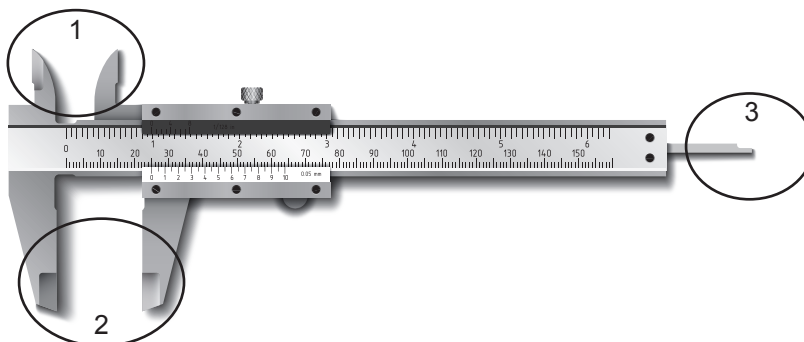
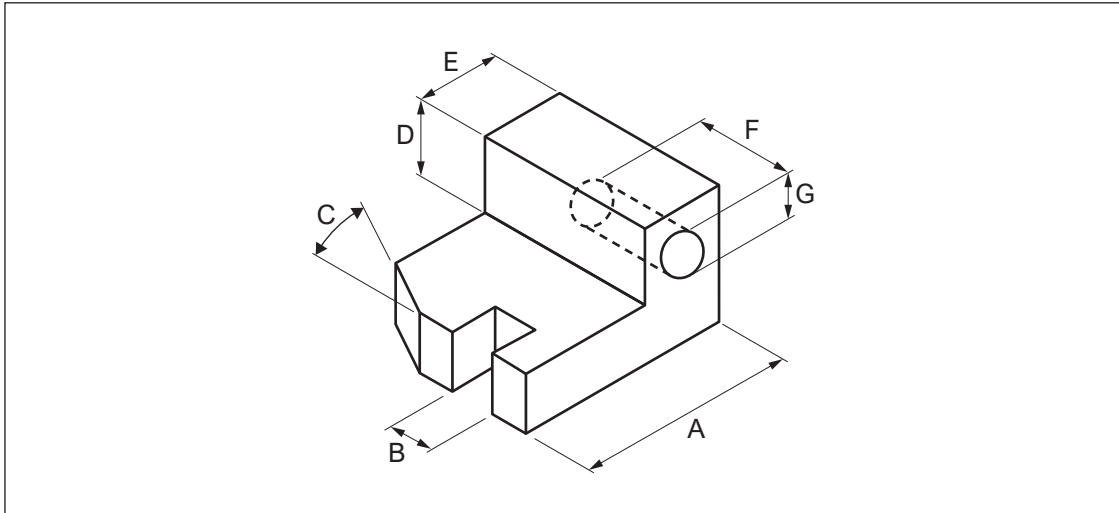

Figure 4
Figure 5
Figure 4 shows a commonly used measuring tool. The three circled areas of the tool can be used for measuring.
a. State the name of the measuring tool shown in Figure 4.
b. Figure 5 shows a component with various dimensions represented by the letters A–G.
Complete the table below by selecting which dimensions from Figure 5 can be measured by the three areas circled on the measuring tool in Figure 4. Provide two dimensions per area.